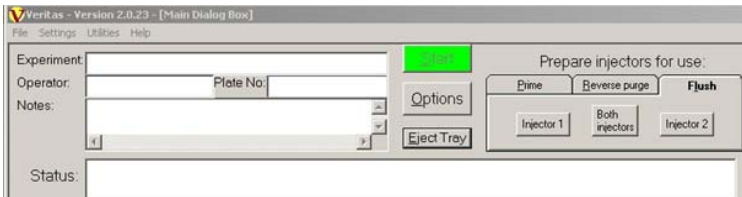

Figure 11
After you click on "Finish," the wizard will automatically record your choices into the "Options" menu. To access your settings, click on the "Options" button from the "Main Dialog Box." (See Figure 11.)
The "Main Dialog Box" (Figure 11) allows the user to start runs, change setup options, establish communication between the Veritas and a computer, prime injectors, flush injectors and reverse purge injectors.
1. Click on the "Flush" tab in the "Main Dialog Box." Select the injector(s) you wish to flush. (See Figure 11.)